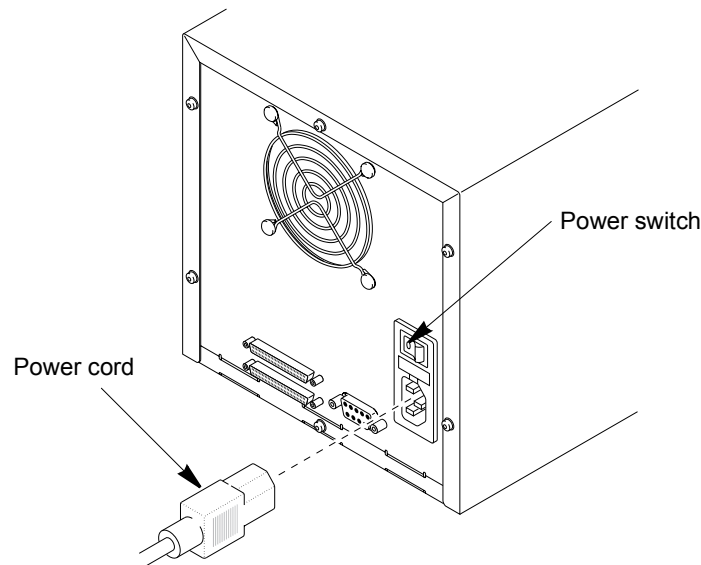

Figure 2-8 Connecting the autoloader's power cord
2. Connect the female end of the power cord to the power connector on the back of the autoloader (see Figure 2-8).